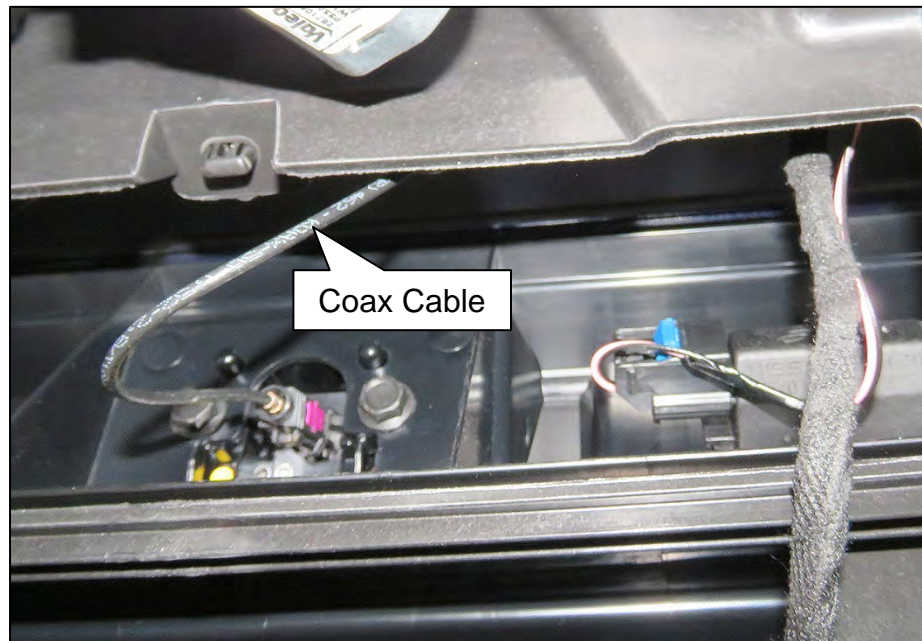

Figure 30
40. Tuck the Coax Cable harness into the cavity above the Rear View Camera, as shown in Figure 30.